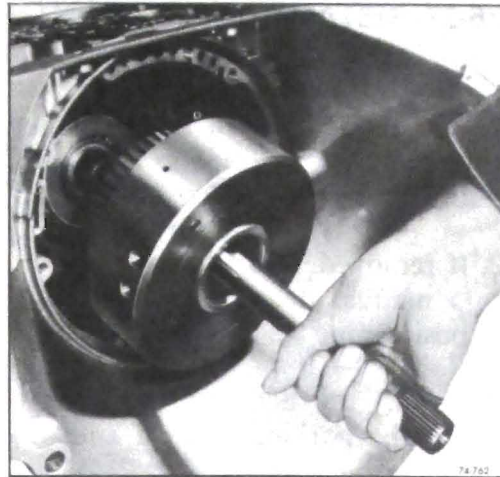

Figure 76-762
19. Install the forward clutch and turbine shaft assembly, see Figure 76-762, indexing the direct clutch hub so end of the mainshaft will bottom on end of the forward clutch hub. When forward clutch is seated it will be approximately 1-1/4" from pump face in case.